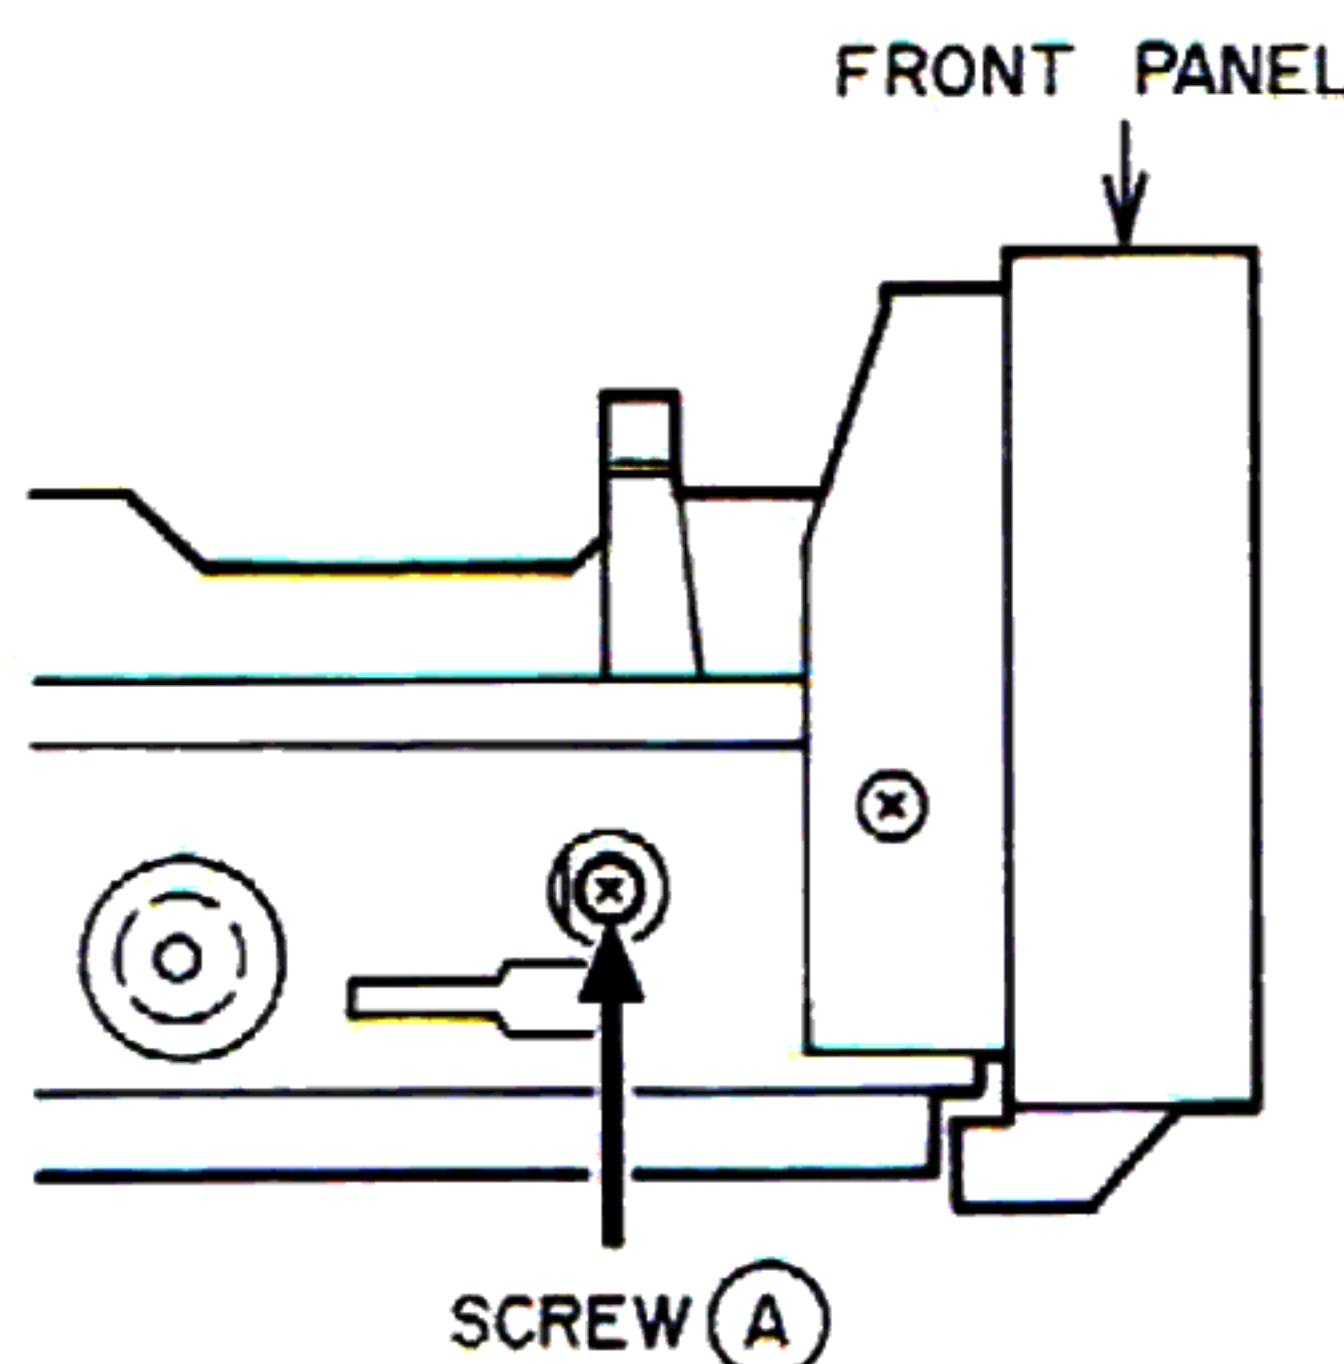

Fig. 6-2
- 4) Turn the adjustment screw **A** by degrees (Refer to Fig. 6-2) as waveform of TP7 will become maximum.